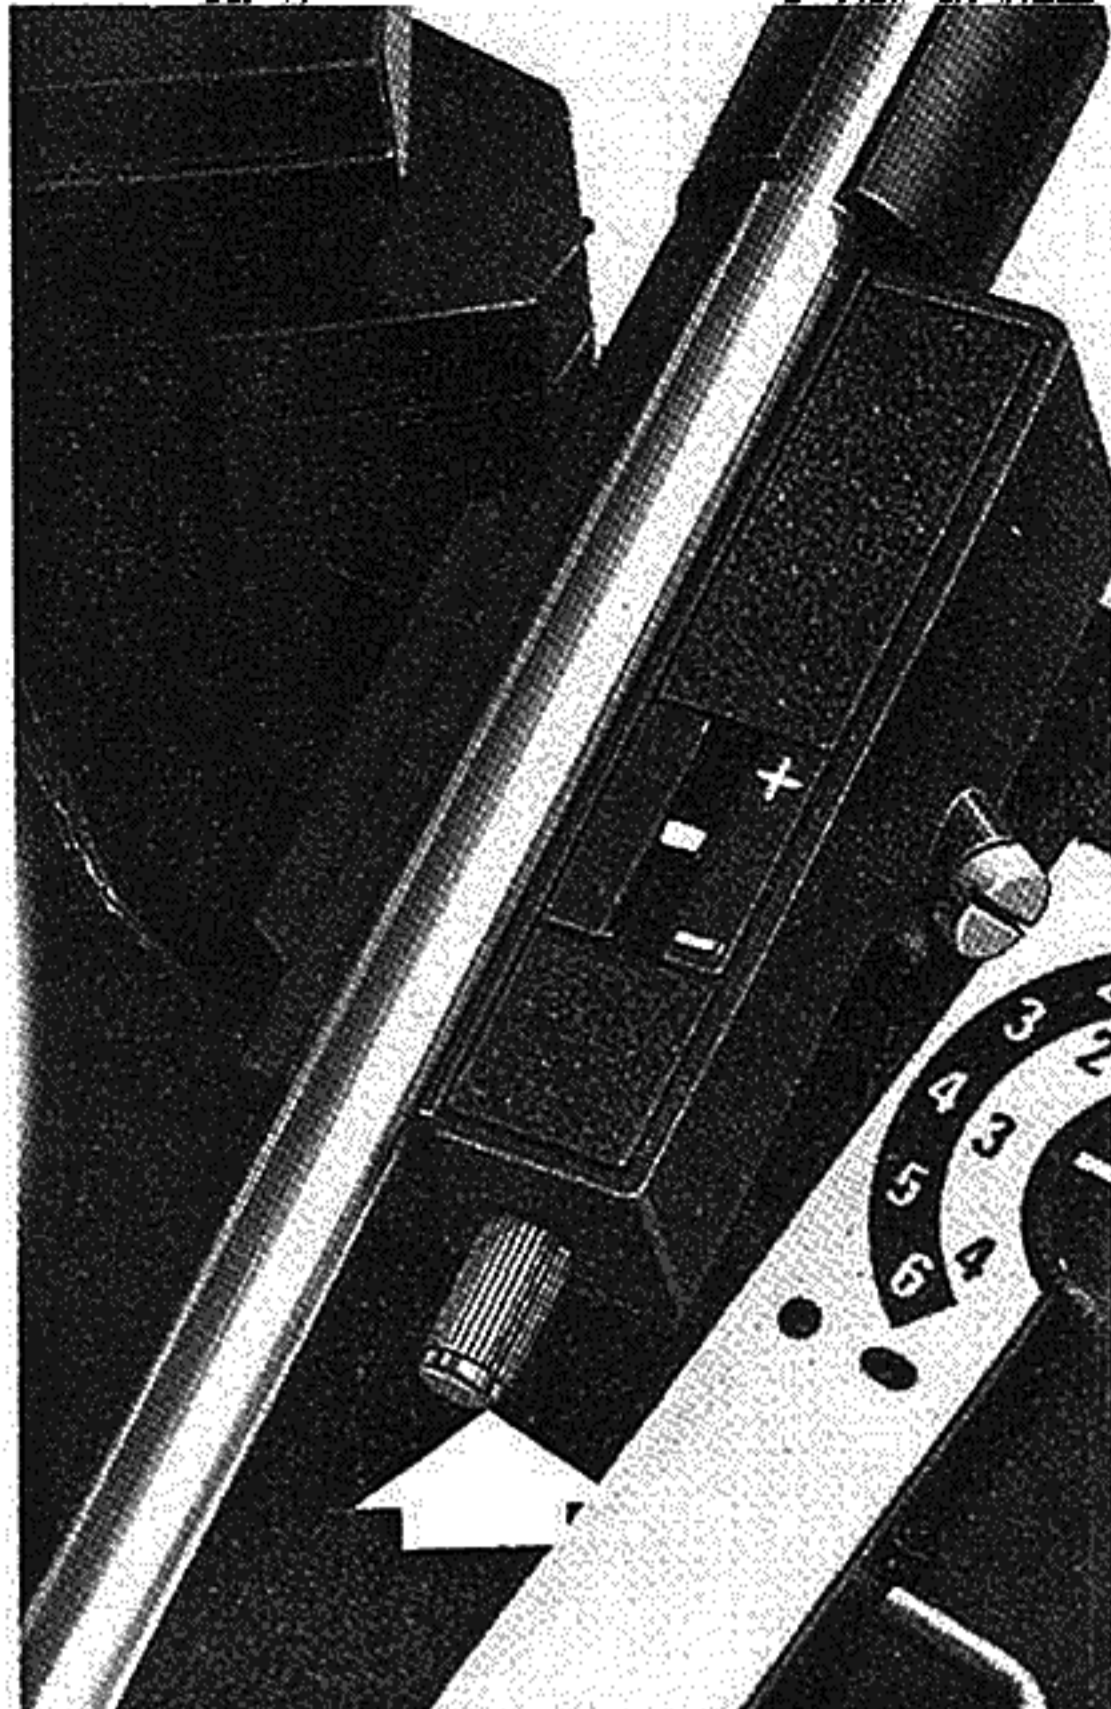

Fig. 3 STYLUS PRESSURE ADJUSTMENT
1. Stylus Pressure. The stylus pressure should always be set as recommended by the cartridge manufacturer. The pressure is adjusted by means of the stylus pressure adjusting knob (Fig. 3). Turning clockwise reduces the pressure, anti-clockwise increases the pressure.